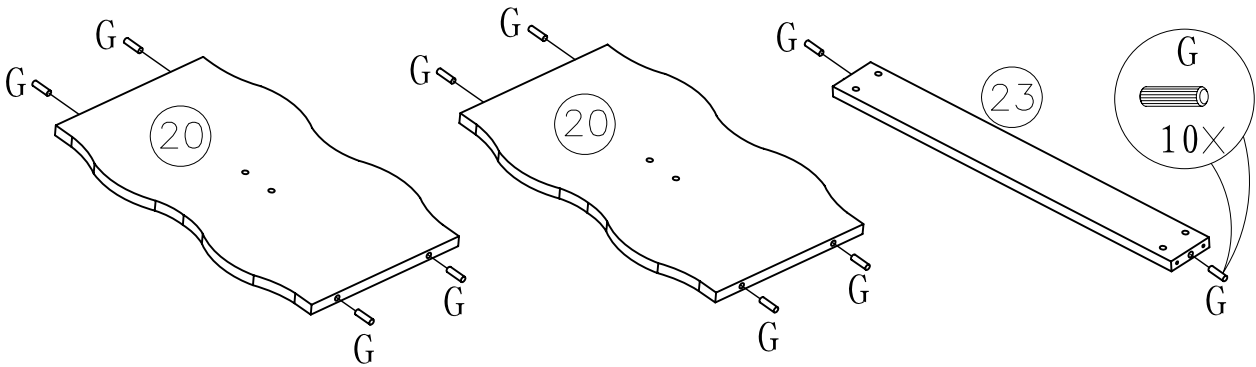

FIGURE 1
- 1.1 INSERT (10) WOODEN DOWELS (G) INTO HOLES LOCATED AT BOTH ENDS OF LEGS #20 AND CROSSBAR #23, AS SHOWN IN FIGURE 1.